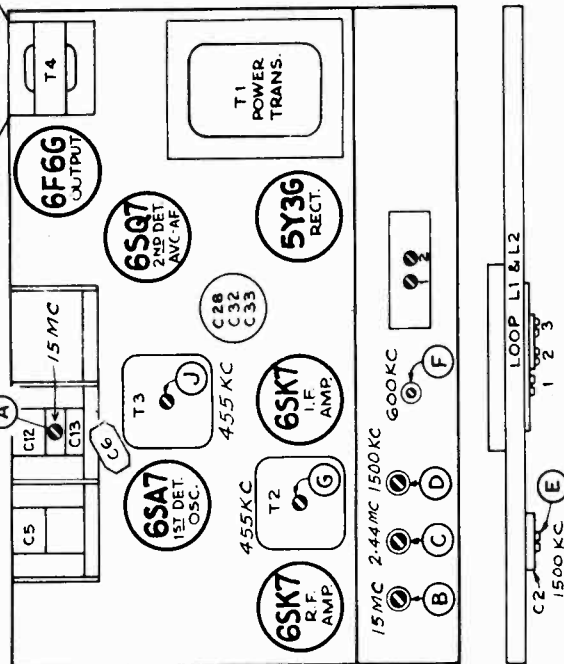

FIG. 3--PARTS LAYOUT--Top View
- (e) Tune receiver to quiet point at 1500 KC end of dial, set volume control full on, range switch to broadcast position, and adjust the trimmers on the second I-F transformer (illus. H. J., Fig. 3 & 4) for maximum output.
- (g) Adjust the trimmers, on the first I-F transformer (illus. F. G., Fig. 3 & 4) for maximum output.